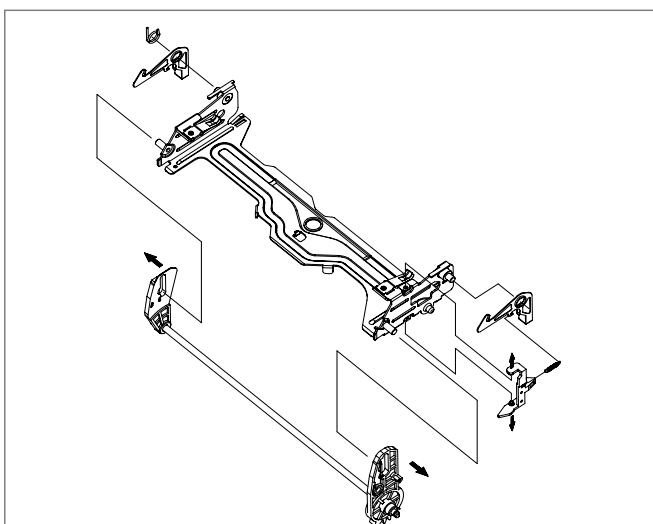

Fig. 3.3 Disassembly of the CASSETTE HOLDER Ass'y
- d. Remove the SAFETY SPRING connecting the SAFETY LEVER and CASSTTE HOLDER PLATE. (Fig. 3.3)
- e. Remove the RELEASE SPRING connecting the RELEASE LEVER and SAFETY LEVER. (Fig. 3.3)